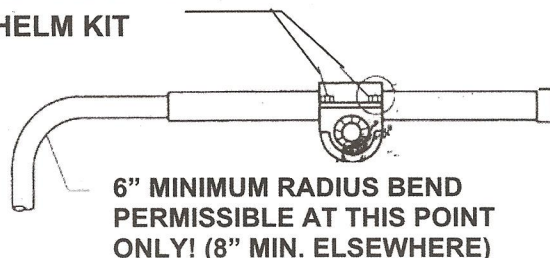

FIGURE 1 (VIEWED FROM BACK OF HELM)
Place the cable and drive assembly on top of the helm unit taking care that the pinion gear of helm unit meshes with gear teeth on rack. Turn helm shaft to accomplish this. Fasten cable and drive assembly to rack using (4) ¼-20 x 1" long locking patch bolts and (4) ½" OD flat washers provided with the helm (see Figure 1). Make sure the washers are *under* the head of the bolt. Tighten all 4 bolts equally and securely.